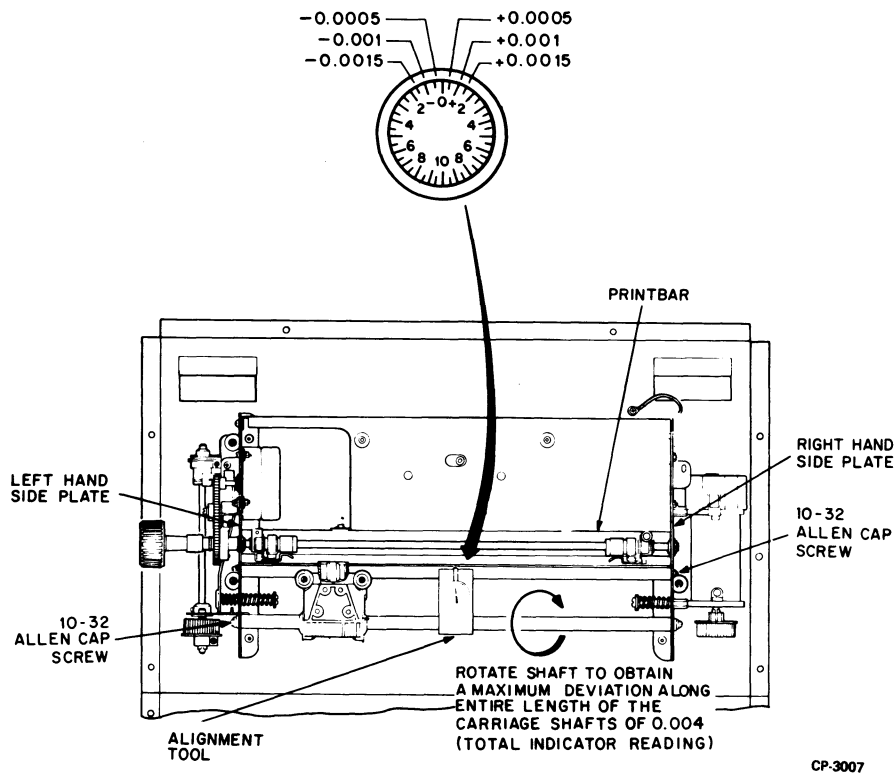

Figure 8-6 Carriage Shaft Parallelism/Alignment
5. Set the alignment gauge on the carriage shafts (Figure 8-6) and zero the gauge by rotating the gauge bezel.